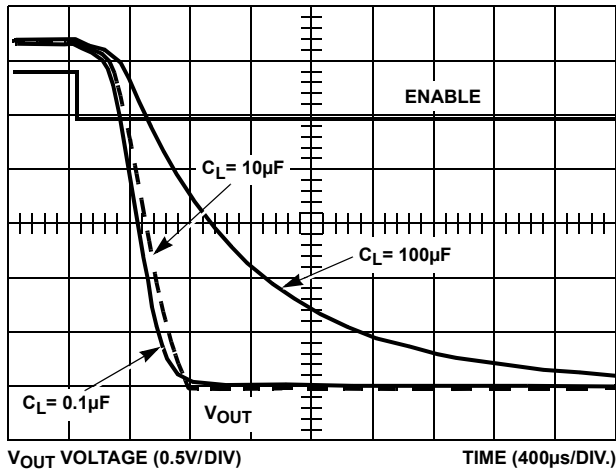

FIGURE 8. SLOW TURN-OFF vs C_L , $R_I = 8\Omega$
The ISL6118 has two shutdown modes. When disabled with a load current less than the current regulation (CR) level the ISL6118 shuts down in a controlled manner using a 500nA constant current source controlled ramp. When disabled during CR or if the timer has expired the ISL6118 quickly pulls down the output thereby quickly removing the faulted load from the voltage bus. See Figures 8 and 9 for illustrative waveforms of each shutdown mode.